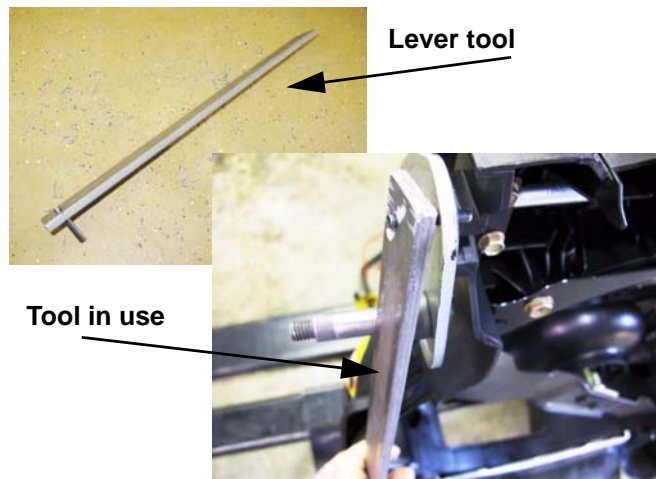

Figure 4.25
5. Use the tool to relieve any remaining tension on the lift assist spring, taking shear load off of the threads of the shoulder bolt. See Figure 4.25.